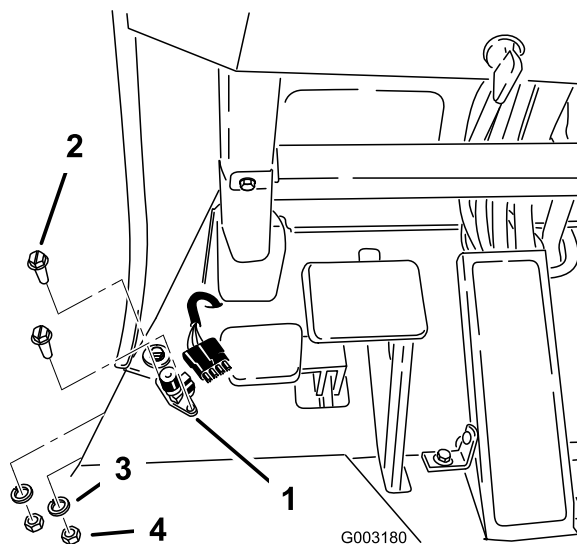

Figure 2
1. Place the new floor switch in the area as shown in Figure 2, near the old switch location, and use the switch to mark locations for drilling holes.
(1/4 inch) and two nuts (1/4 inch) provided in loose parts (Figure 2).